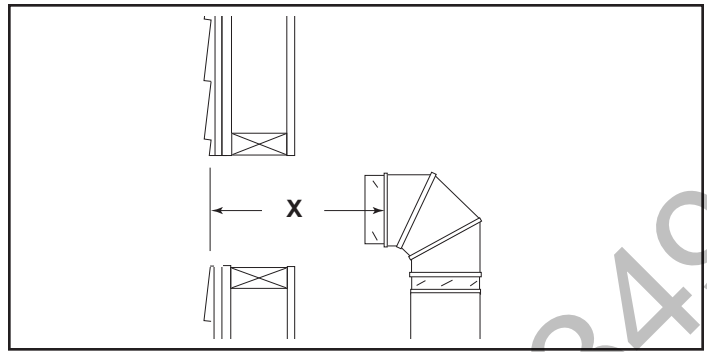

Figure 25 - Measure the horizontal length.
7. Measure, and cut if needed, the appropriate length of pipe section needed to make the connection through the wall. Include a 2" overlap; i.e. from the elbow to the outside wall face, about 2" or the distance required if installing a second 90° elbow. (Figure 25)